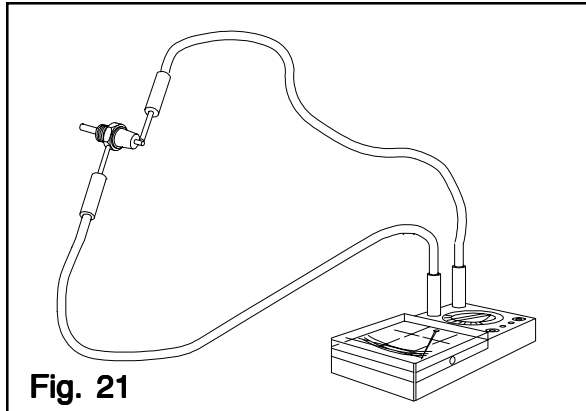

Fig. 21
-Verify there is no continuity between (+) and ground(Fig.21).